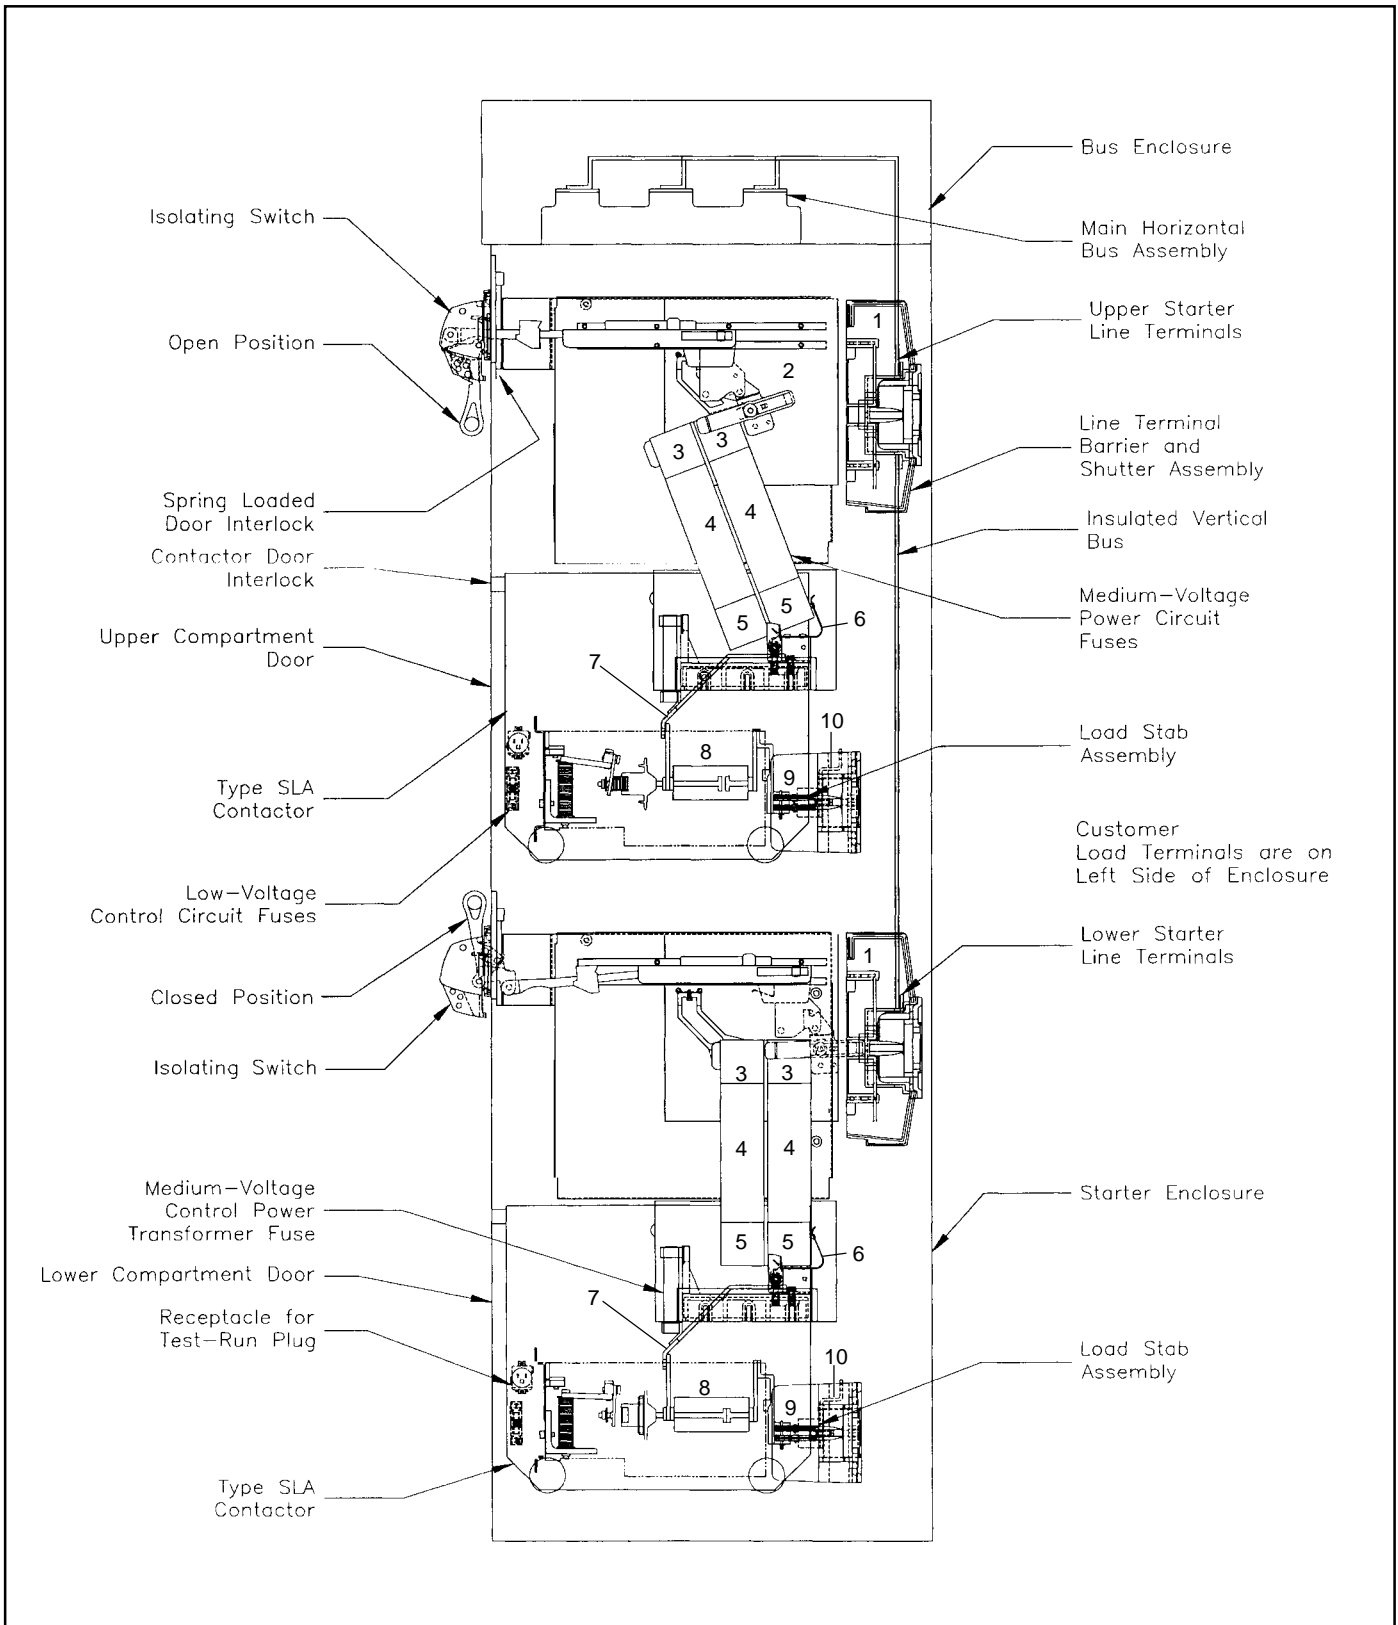

Fig. 4 Ampgard® Components, Two Starters (Controllers) Shown
The flow of current through a vacuum-break controller (starter) can be traced by referring to the lower portion of Figure 4, where the controller is shown in the energized position. The line stab assembly mounted at the back of the enclosure also serves as the controller line terminals (1). The stabs themselves are engaged by the fuse jaws (2) of the isolating switch which is mounted on rails at the top of the cell compartment. The line ferrules (3) of the current-limiting motor-starting power circuit fuses (4) clip into the fuse jaws, and the load ferrules (5) fit into the fuse holders (6) which are part of the contactor line terminals. Current flow through the contactor is from the load ferrules of the power circuit fuses, through the contactor line bus (7), and the vacuum interrupters (bottles) of the contactor (8), to the contactor load terminals (9). The contactor is mounted on rails in the lower part of the cell, immediately adjacent to the current transformers, which are bolted to a panel on the side of the enclosure. Spring loaded contact jaws mounted on the contactor load terminals plug into the lower stab assembly (10), providing a convenient connection through the current transformers to the motor (load) terminals mounted on the left-hand side wall of the enclosure. Instrument quality potential transformers (when furnished) are mounted to the right side sheet of contactor.